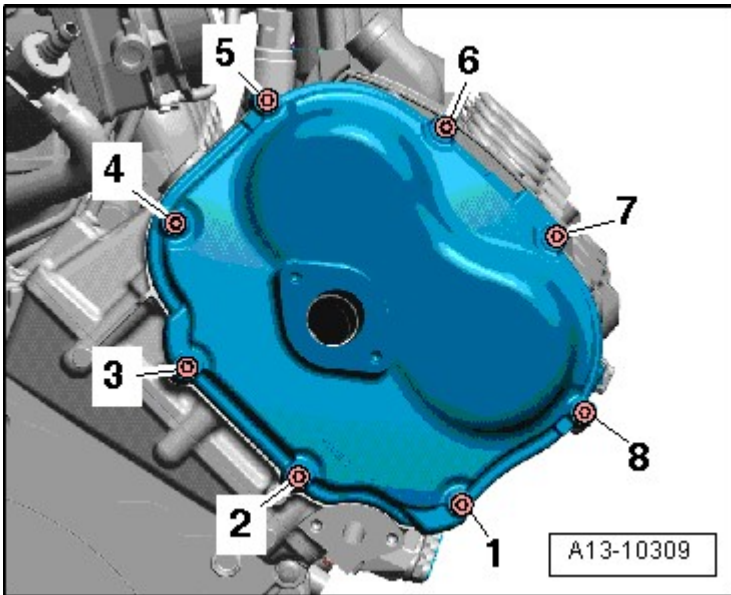

Fig. 3: Identifying Right Timing Chain Cover And Tighten/Removing Bolts Sequence
- Tightening specification and sequence, refer to **Fig. 3**